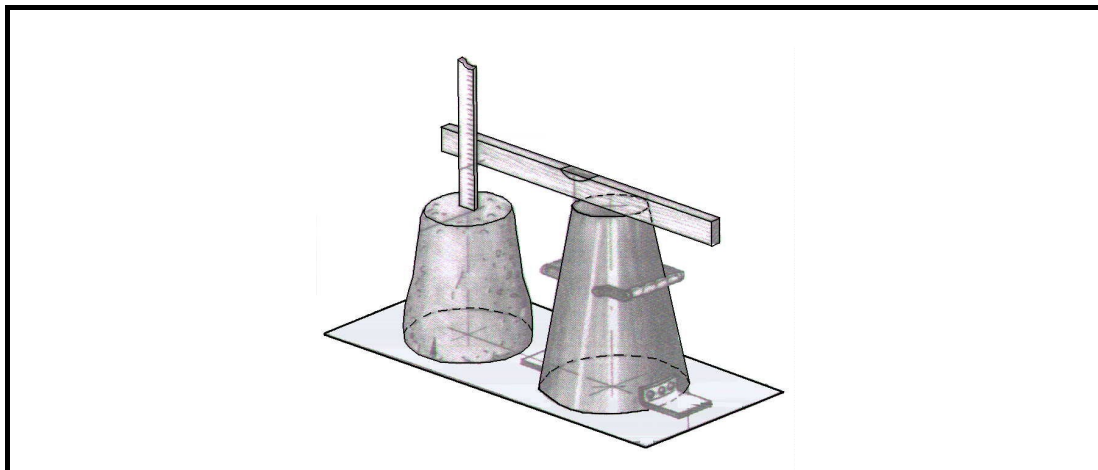

FIGURE 4.2
- 4.2 Answer the questions with regard to the test in FIGURE 4.2.